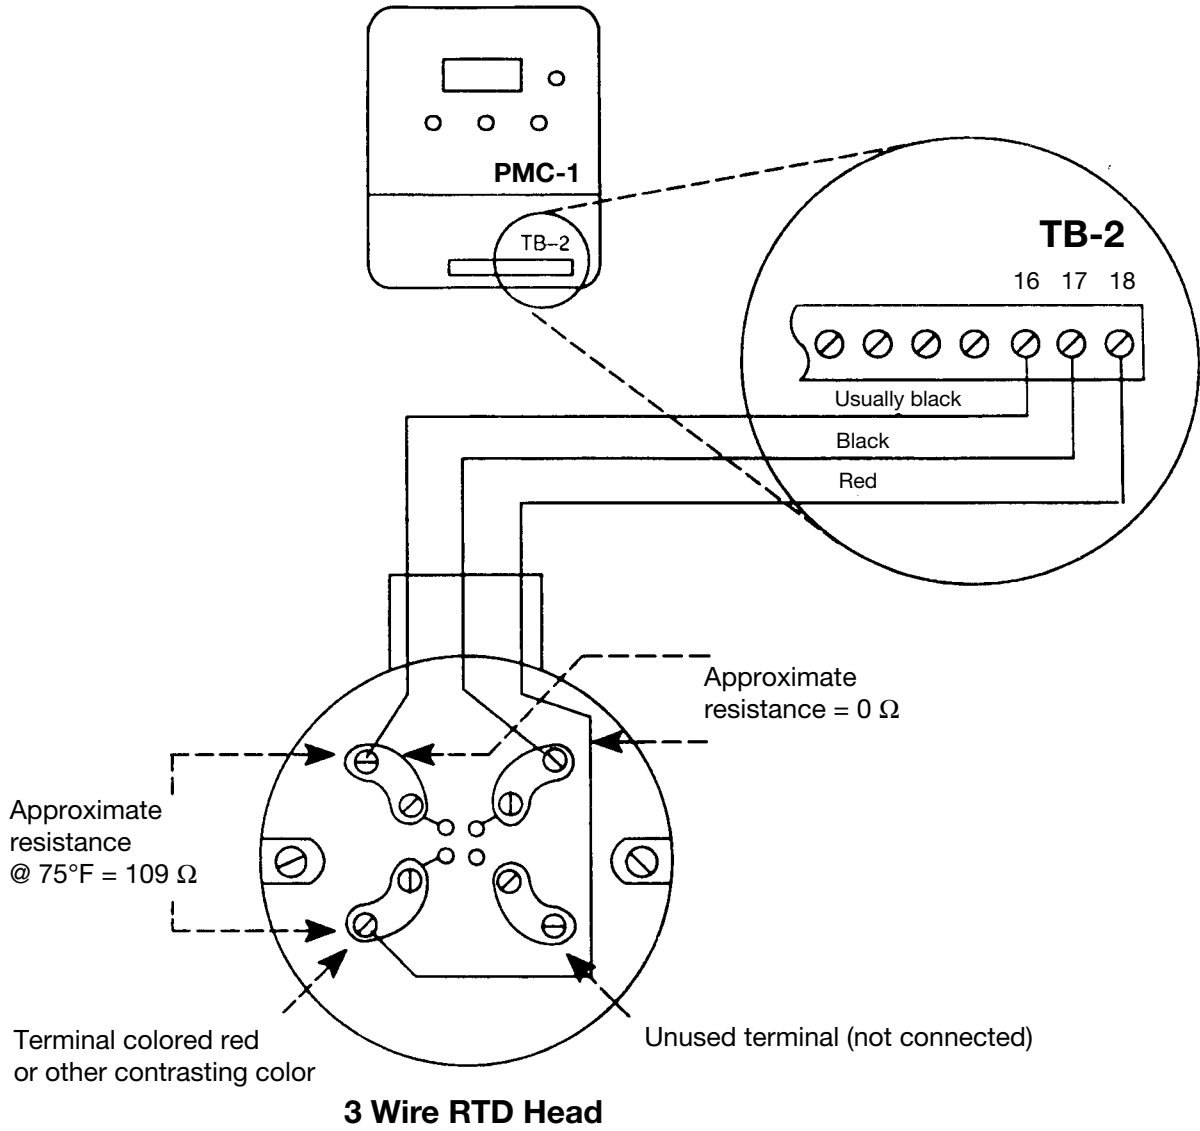
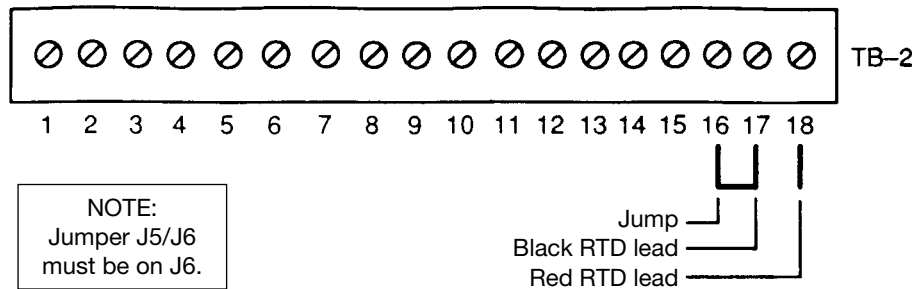

FIGURE 5
FIGURE 6
6. When the PMC-1 is being used as a temperature controller with an RTD, an optional signal conditioning card, calibrated for a temperature range suitable for the process, must be installed in TB 5. Jumper at J5/J6 must be on J6. (See figure 7) For a 3 wire RTD, connect the two RTD wires that are internally connected together (zero resistance between them) to terminals 16 and 17 and the remaining connection to terminal 18 of TB-2. (See Figure 5). For a 2 wire RTD, jump terminals 16 and 17. (See Figure 6). See Appendix C for guidelines on practical distance limitations.
- a) If an RTD is being used, make sure that the wires are connected according to the diagram in the PMC-1 Installation and Operation Manual. If in doubt, measure the resistance across the terminals, as shown in Figure 5.